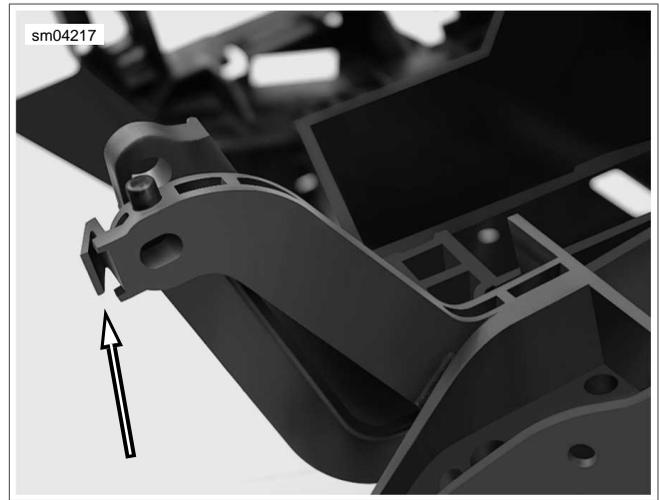

Figure 8-12. Right Side Caddy Support Arm Lip
11. Pull caddy forward to release lip on support arm from behind frame weldment (for side cover grommet). See Figure 8-12.